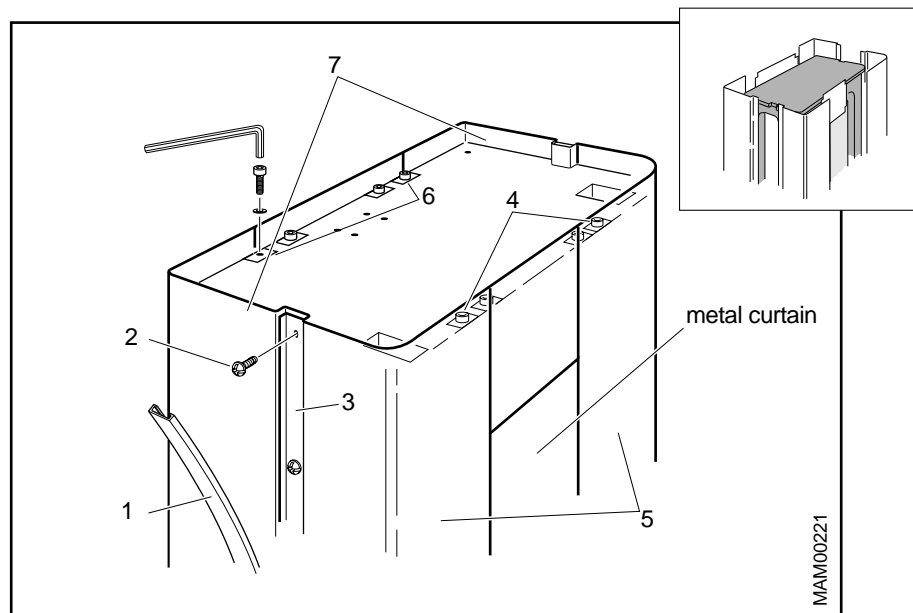

Fig. 1 MAMMOMAT with separate rear side covers
The metal curtain (see Fig. 1) is very sharp. After removing the stand front covers (5), mount protective strips onto the edges of the metal curtain. The strips are located inside the stand.
- Remove plastic strip (1).
- Remove screws (2) and inner plastic strip (3).
- Remove screws (4) and front covers (5).
- Remove screws (6) and rear side covers (7).